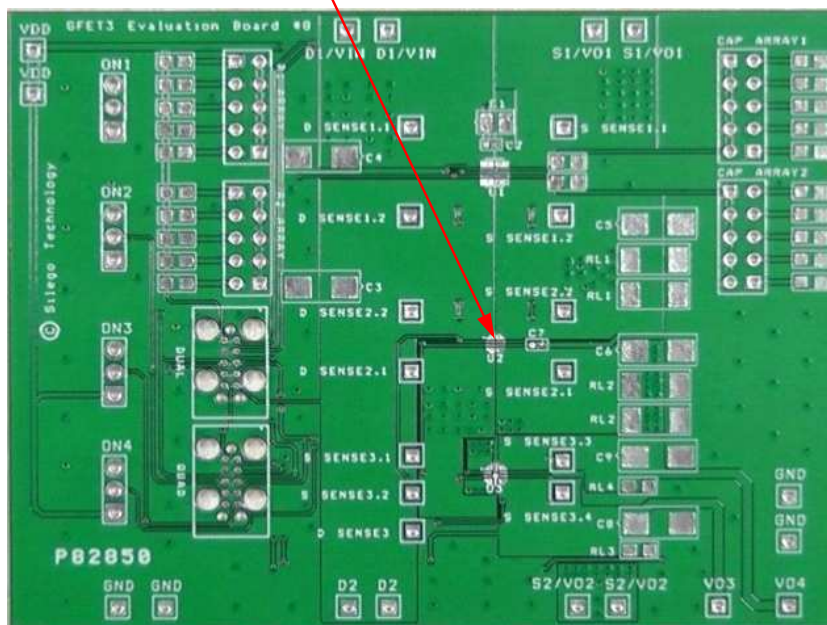

Figure 1. SLG59M1512V Evaluation Board.
2. Since the D1, D2, S1 and S2 pins dissipate most of the heat generated during high-load current operation, it is highly recommended to make power traces as short, direct, and wide as possible. A good practice is to make power traces with absolute minimum widths of 15 mils (0.381 mm) per Ampere. A representative layout, shown in Figure 1, illustrates proper techniques for heat to transfer as efficiently as possible out of the device;
A GreenFET Evaluation Board for SLG59M1512V is designed according to the statements above and is illustrated on Figure 1. Please note that evaluation board has D_Sense and S_Sense pads. They cannot carry high currents and dedicated only for RDS_{ON} evaluation.